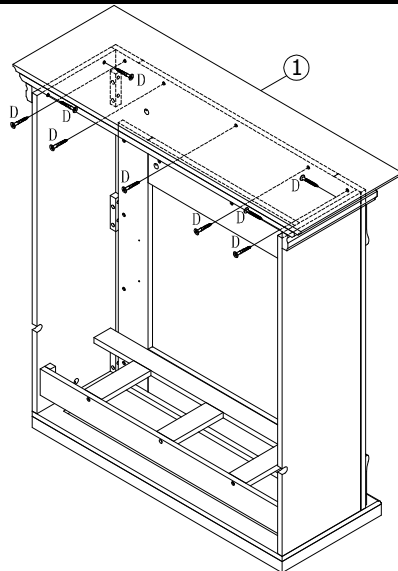

Figure 8
PLACE TOP PANEL (1) ONTO TOP EDGES, ATTACH IT TO THE UNIT BY USING 9PCS FLAT HEAD LONG SCREW (D) AS FIGURE 8 SHOWN.